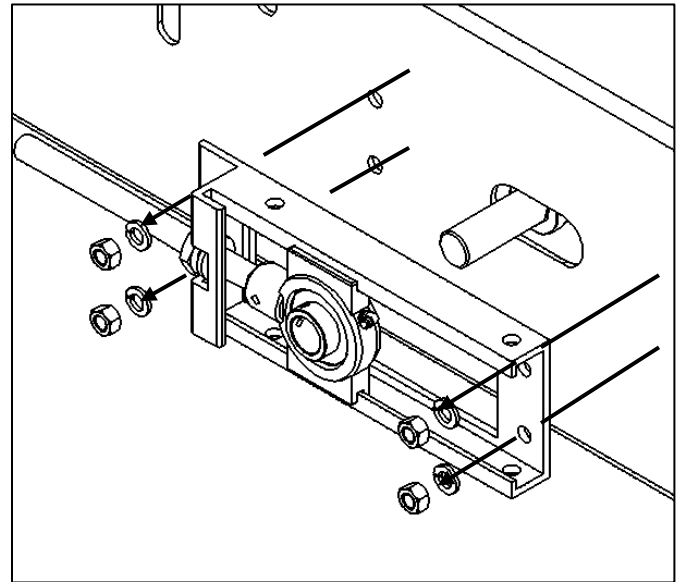

Figure 2: Take-Up Frame Removal
8. Remove the take-up frames and slide the shaft out of the housing (**Figure 2**).